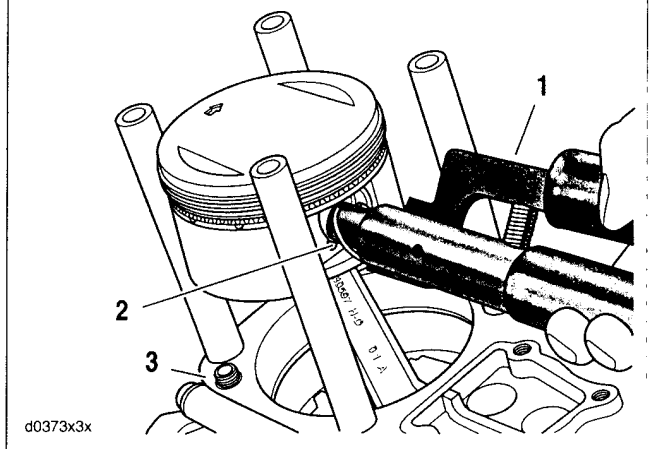

Figure 3-32. Pin Circlip Remover/Installer (Part No. HD-42317)
- d. See Figure 3-32. Insert the tool (1) into the piston pin bore until claw is aligned with slot (2) in piston.
1. See Figure 3-32. Apply a very thin film of clean H-D 20W50 engine oil to **new** O-rings for both cylinder deck dowel pins (3). Install and verify that O-ring is properly seated in groove.